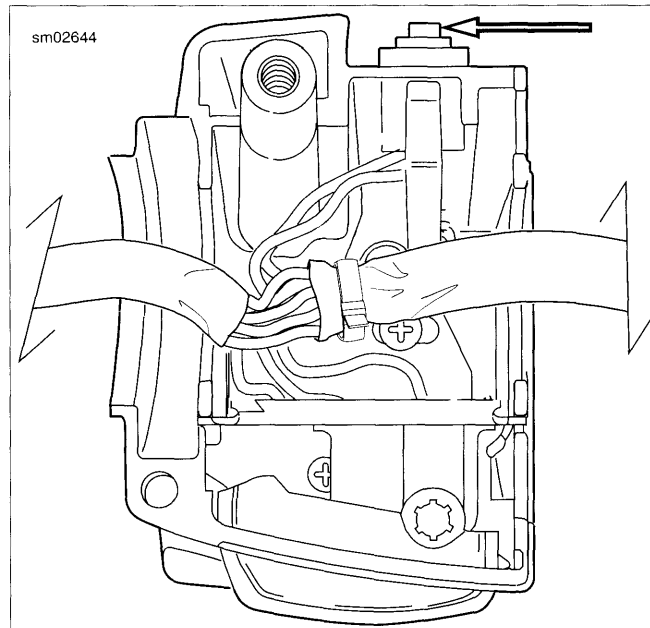

Figure 6-141. Clutch Interlock Switch
2. See Figure 6-141. Cut wires 0.25 in. (6.4 mm) from old switch. Discard switch assembly.